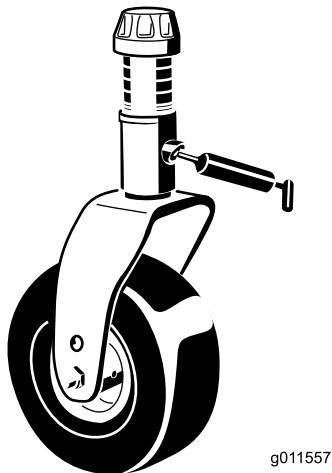

Figure 44
- 2 caster-fork-shaft bushings (Figure 44)